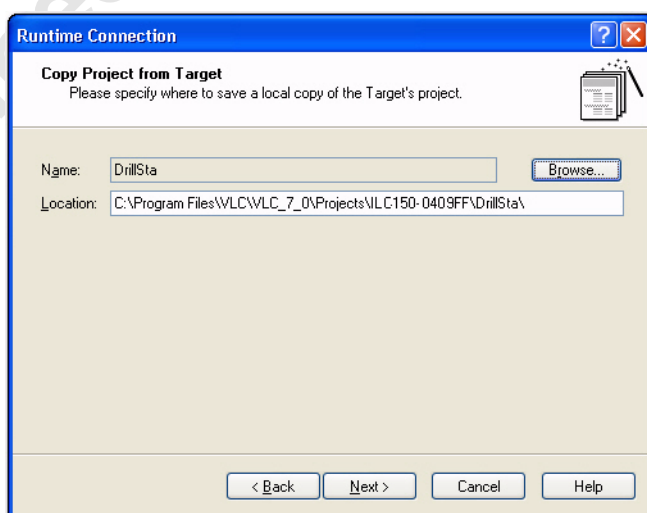

Figure 3-4 The “Copy Project from Target” page of the “Runtime Connection” wizard.
- For “Copy from Target”, the “Runtime Connection” wizard displays the page shown in Figure 3-4. Specify a path on your local PC where you want to save the project. You can edit the path or click the “Browse” button to select a directory. Click the “Next” button, and then continue with step 6.